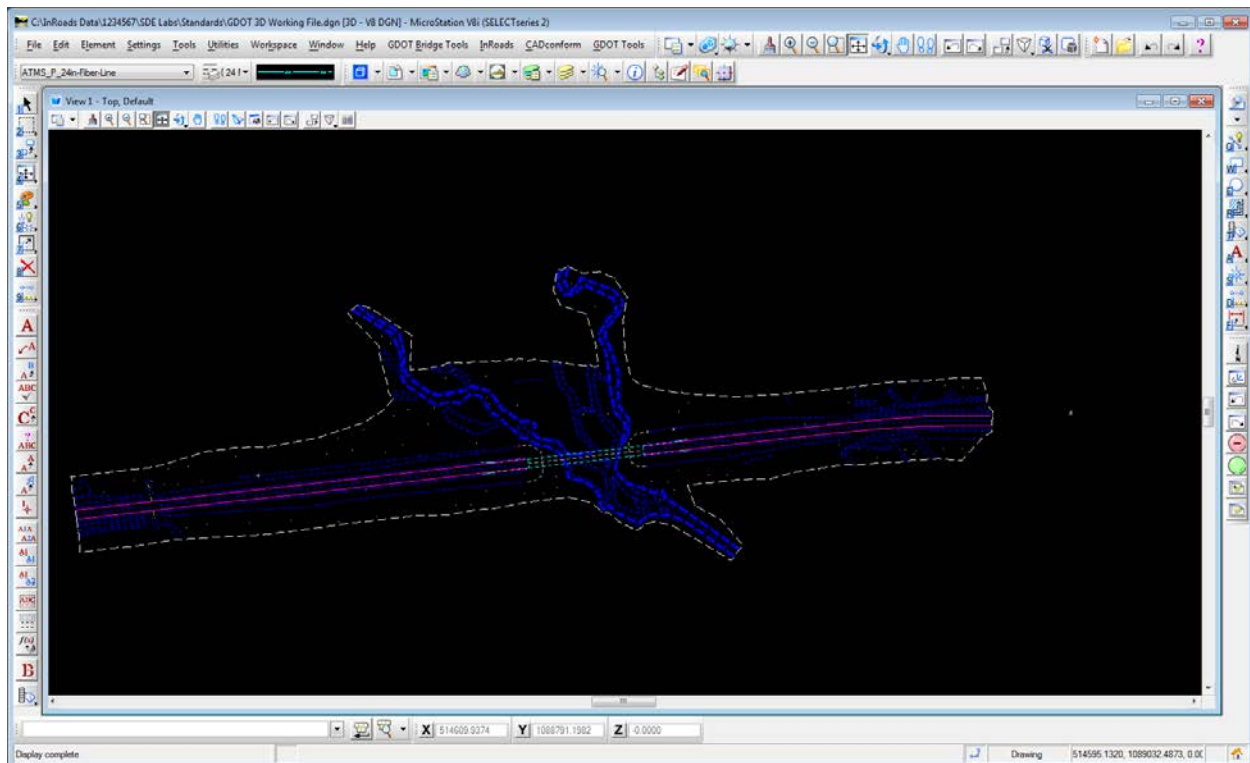

Figure L3-19 MicroStation View of Surface Features
- Verify that the MicroStation view window matches that shown in *Figure L3-19*.